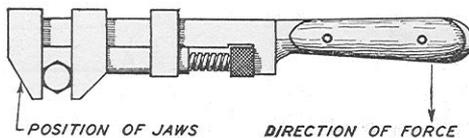

Fig. 12. Monkey Wrench
2. Adjust the jaws until they fit the part tightly, as shown in Fig. 12.